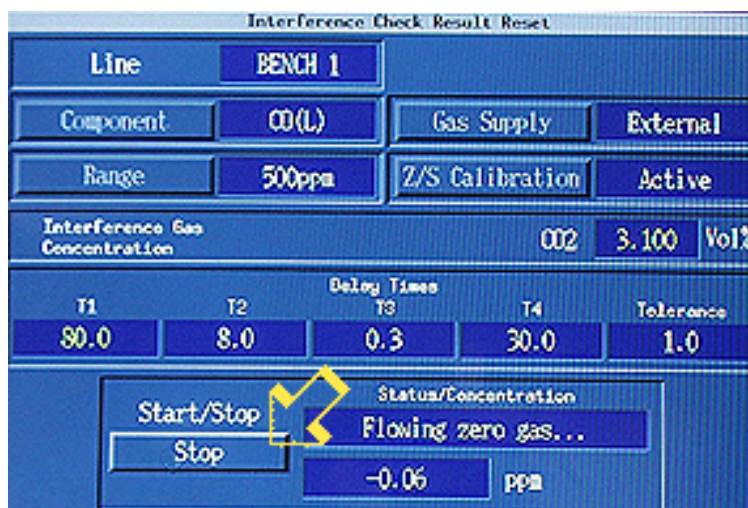

Figure 15
- 113 Click on the “Start/Stop” button See Figure 15.